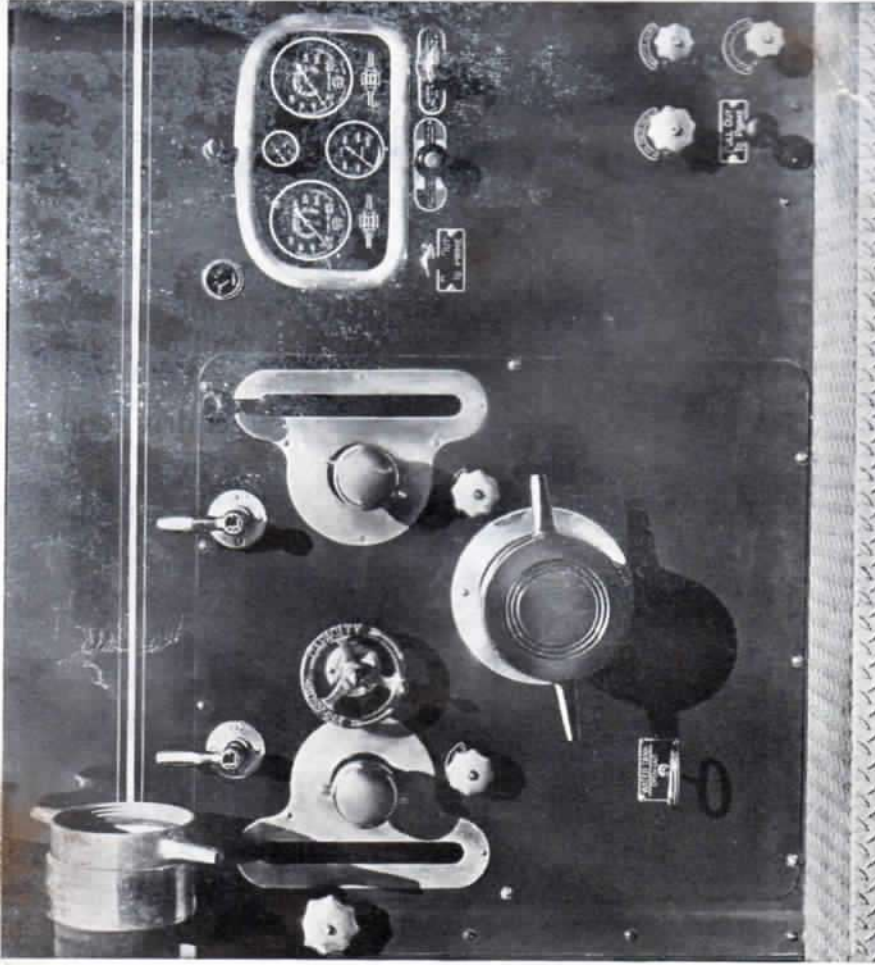

FIG. 6
C. Check the position of the "change-over valve" hand wheel. The pump should be operated in "capacity" for pressures up to 175 lbs. per square inch. The valve is in "capacity" when turned clockwise to the limit of its travel. This is the proper setting for either large or small volumes of water. If discharge pressures in excess of 175 lbs. per square inch are required, momentarily retard the hand throttle and turn the "change-over valve" anti-clockwise to the full extent of travel. This operation changes the pump from "capacity" to "pressure." See Fig. 6.
D. Check the position of the "change-over valve" hand wheel. The pump should be operated in "capacity" for pressure up to 175 lbs. per square inch. The valve is in "capacity" when turned clockwise to the limit of its travel. This is the proper setting for either large or small volumes of water. If discharge pressures in excess of 175 lbs. per square inch are required, momentarily retard the hand throttle and turn the "change-over valve" anti-clockwise to the full extent of travel. This operation changes the pump from "capacity" to "pressure." See Fig. 6.
- C. Check the position of the "change-over valve" hand wheel. The pump should be operated in "capacity" for pressures up to 175 lbs. per square inch. The valve is in "capacity" when turned clockwise to the limit of its travel. This is the proper setting for either large or small volumes of water. If discharge pressures in excess of 175 lbs. per square inch are required, momentarily retard the hand throttle and turn the "change-over valve" anti-clockwise to the full extent of travel. This operation changes the pump from "capacity" to "pressure." See Fig. 6.